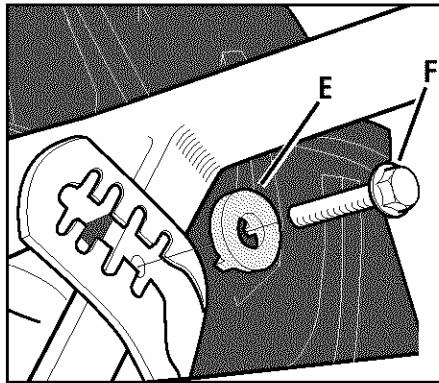

Figure 3-3
3. Loosen the height adjustment flange screw (F, Figure 3-3) and pull the keyed washer (E) free of the slots in the curved height adjustment bracket.